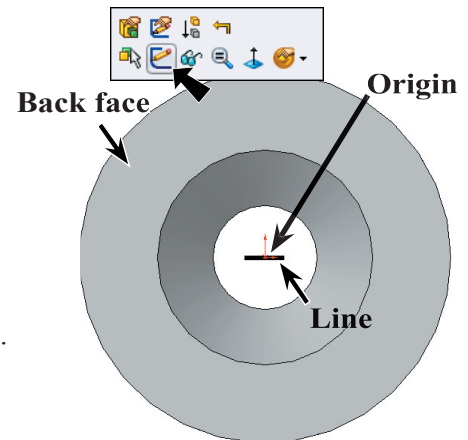

Fig. 11
Step 2. Click the back face of the body and click **Sketch**  on the Content menu, **Fig. 11**.
Step 3. Click **Line**  (L) on the Sketch toolbar.
Step 4. Draw a horizontal line across through the Origin, **Fig. 11**.